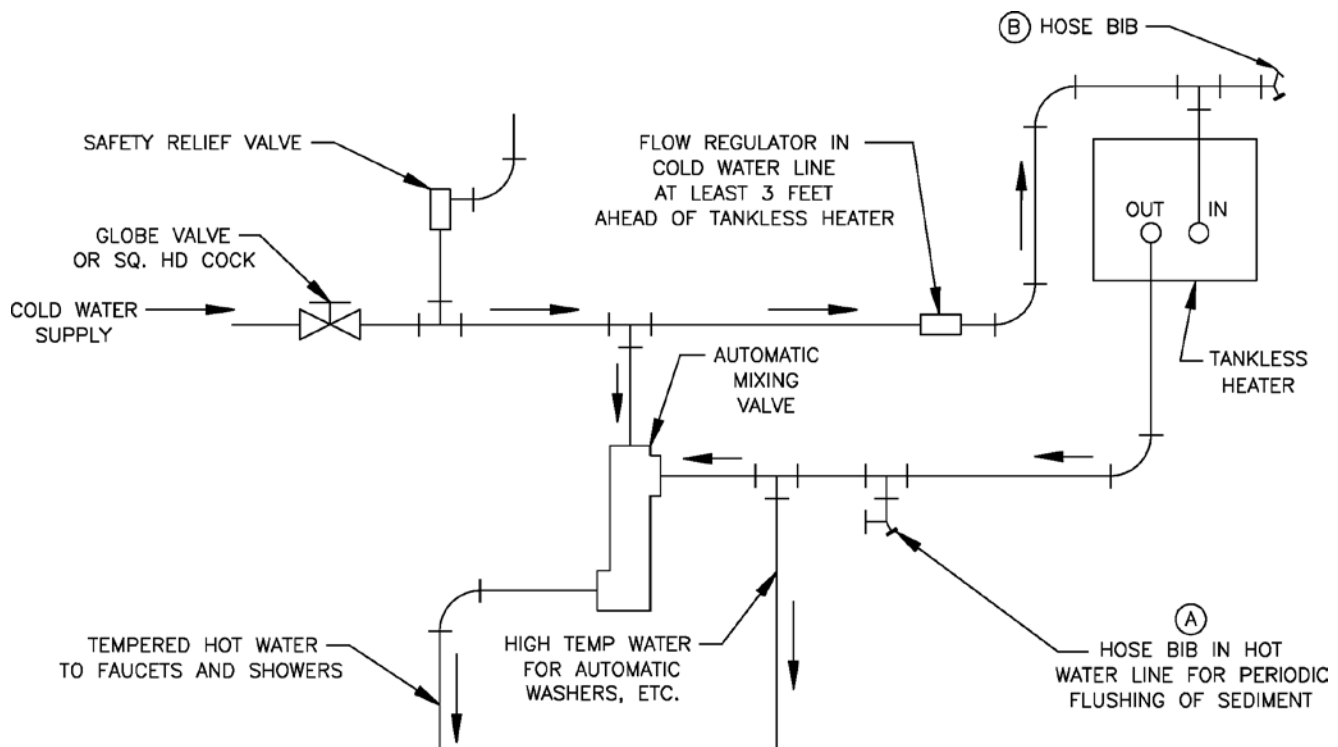

Figure 8: Schematic Tankless Heater Piping
F. CONNECT TANKLESS HEATER PIPING AS SHOWN IN FIGURE 8.
of the available hot water by mixing some cold water with the hot. This prevents the possibility of scalding hot water at the fixtures. In addition, savings of hot water will be achieved since the user will not waste as much hot water while seeking a water temperature. Higher temperature hot water required by dishwashers and automatic washers is possible by piping the hot water from the heater prior to entering the mixing valve. The mixing valve should be "trapped" by installing it below the cold water inlet to heater to prevent lime formation in the valve. Refer to Figure 8.